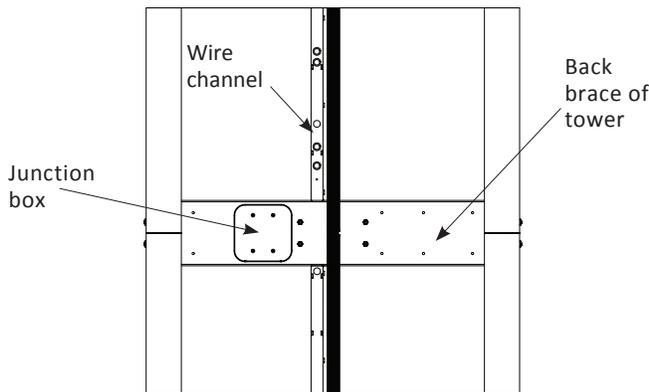

Figure 4-3
- Remove 4X screws on junction box cover inside the tower. Apply temporary power to the lift through the junction box inside the tower. Connect temporary 120V AC to the black and white wires. Route temporary wires out of a knock-out in the side of the junction box, down through back of center wire channel to the bottom of the lift and to temporary power source. *See Figure 4-3.*